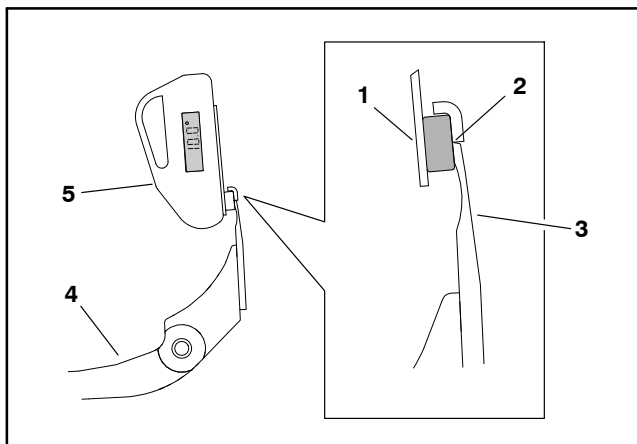

Figure 11
3. Remove the angle indicator and place the angle-indicator mount on the edge of the bedknife so the face of the magnet is flat against the top of the bedknife (Fig. 11).
4. Place the angle indicator on the mount with the digital display facing you as shown (Fig. 11). The angle displayed on the indicator is the current bedknife top angle.